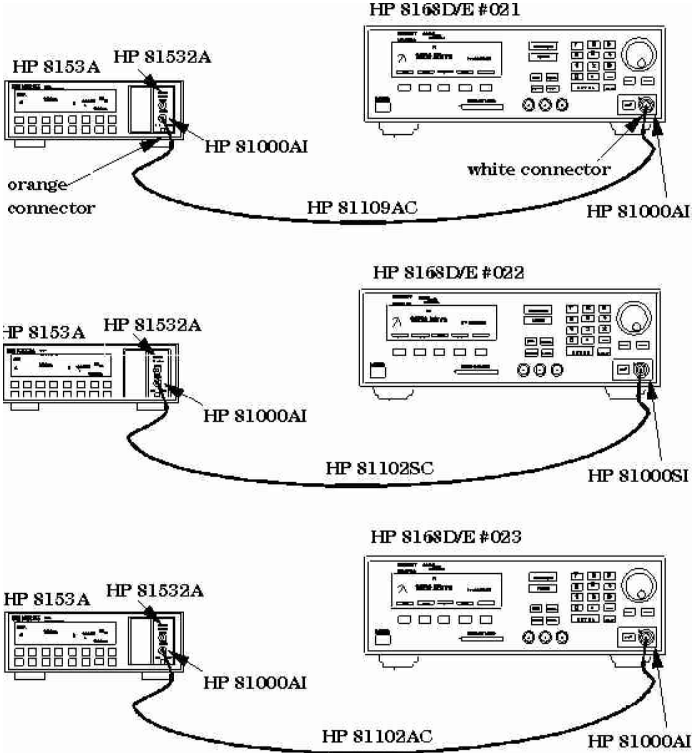

Figure D-2.
- HP 8168D,E as shown in Figure D-2